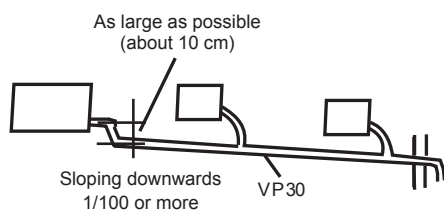

Figure 5.2 Centralised water discharge
7. When the water discharge pipe outlet is higher than the water suction pipe connection, try to keep the water discharge pipe as vertical as possible and the water outlet connection fittings will be bent so that the height of the water discharge pipe should be within 1000 mm from the base of the drain pan. Otherwise, there will be excessive water flow when operation stops. See Figure 5.2.